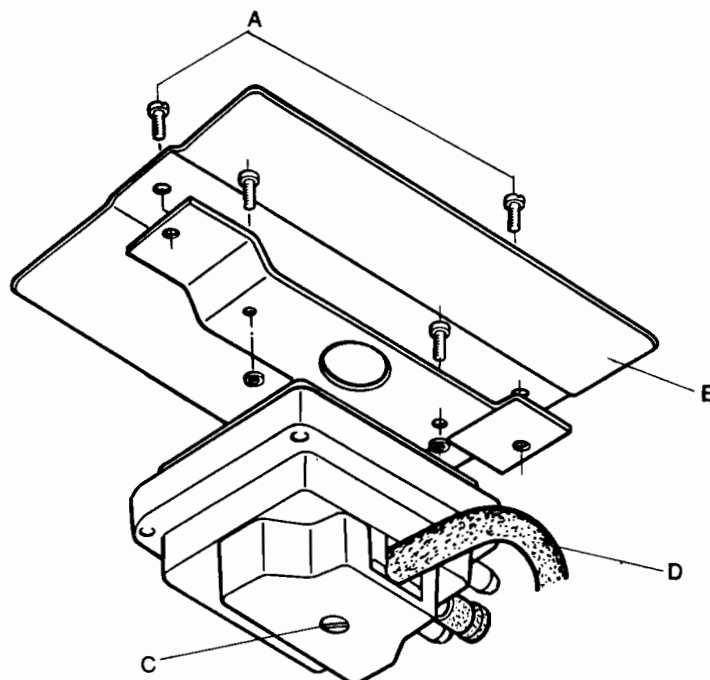

Fig. 31
**Section 21 : to replace the air pressure switch (Fig 31)**